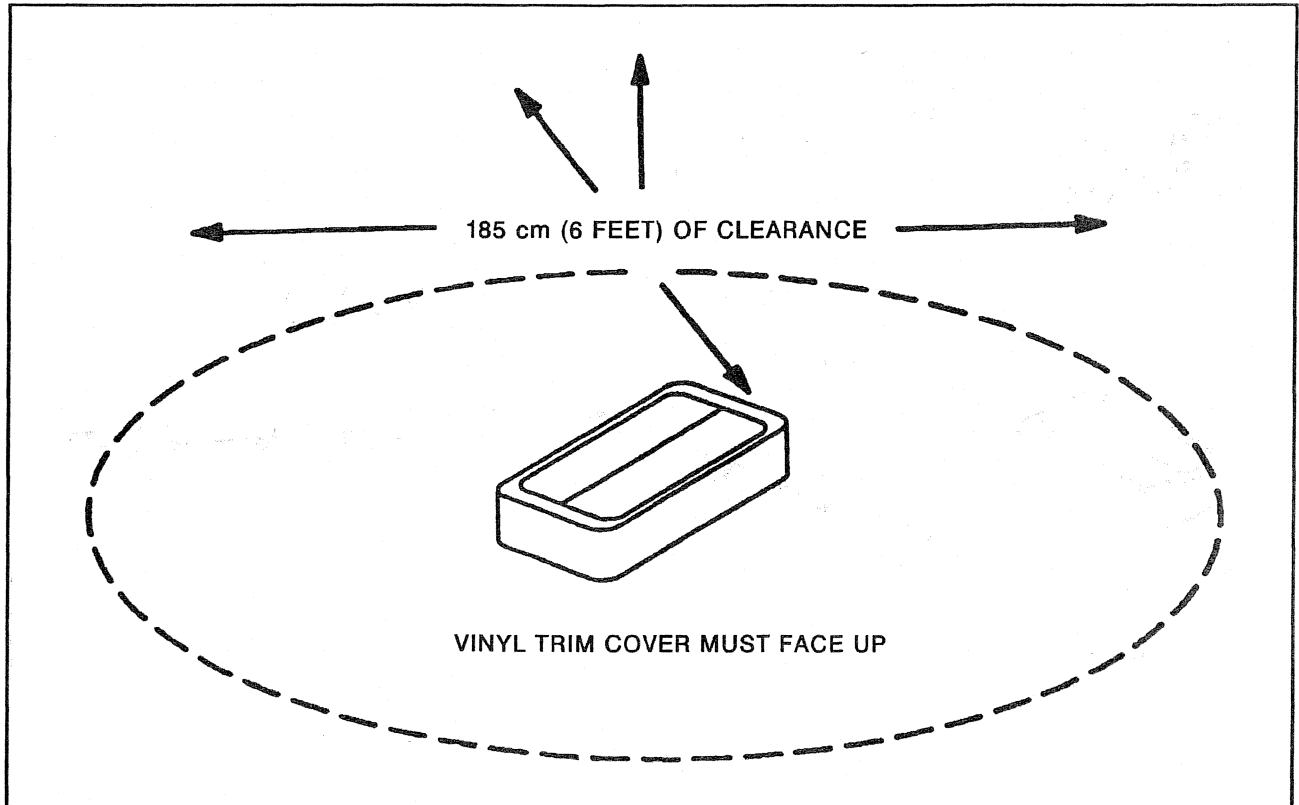

Figure 16—Provide Adequate Clearance for the Air Bag to Deploy
9. Clear a space on the ground about 185 cm (six feet) in diameter where the inflator module is to be deployed. A paved, outdoor location where there is no activity is preferred. If an outdoor location is not available, a space on the shop floor where there is no activity and sufficient ventilation is recommended. Ensure no loose or flammable objects are within the deployment area (Figure 16).
10. Place the inflator module, with its vinyl trim cover facing up, on the ground in the space just cleared (Figure 16).